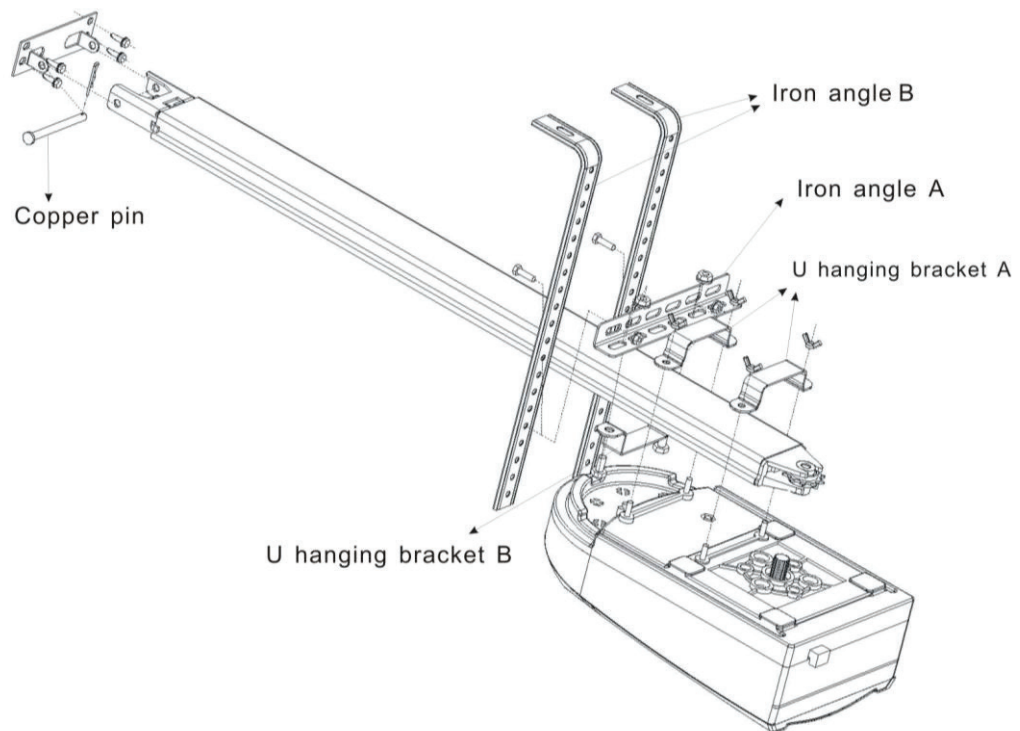

Fig. 1
2. Fixing the steel track to the bracket with cotter pin A. (Fig. 1)